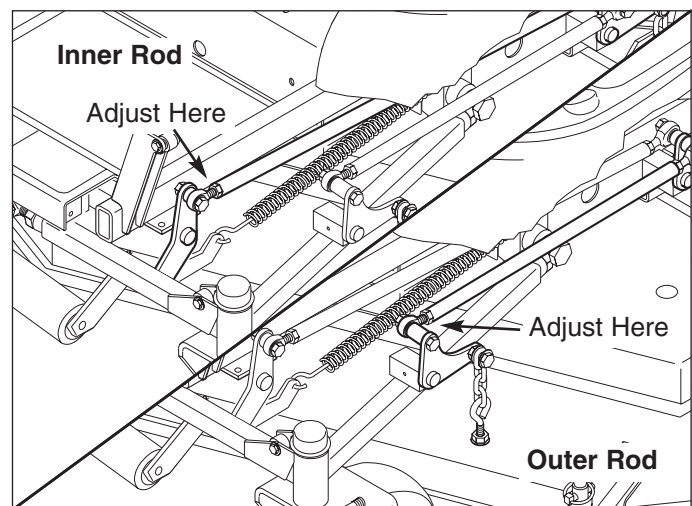

Figure 41. Adjust the Inner & Outer Lift Rods
8. Refer to Figure 41. To adjust the inner lift rod, loosen the jam nut on the front ball joint then remove the 1/2" hardware fastening the ball joint the the lift pivot arm. Turn the ball joint clockwise to shorten the distance between the rod pivots or counterclockwise to lengthen the distance between the rod pivots. Reinstall the ball joint on the lift pivot arm and secure with the 1/2" hardware previously removed. Tighten the jam nut against the lift rod.
9. Refer to Figure 41. To adjust the inner lift rod, loosen the jam nut on the front ball joint then remove the 1/2" hardware fastening the ball joint the the lift pivot arm. Turn the ball joint clockwise to shorten the distance between the rod pivots or counterclockwise to lengthen the distance between the rod pivots. Reinstall the ball joint on the lift pivot arm and secure with the 1/2" hardware previously removed. Tighten the jam nut against the lift rod.